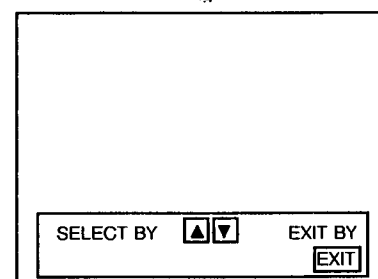

Fig. 2
- 2) Select either PICTURE or SOUND. The screen shown in Fig.2 will be displayed if the LEFT / RIGHT KEY is pressed.